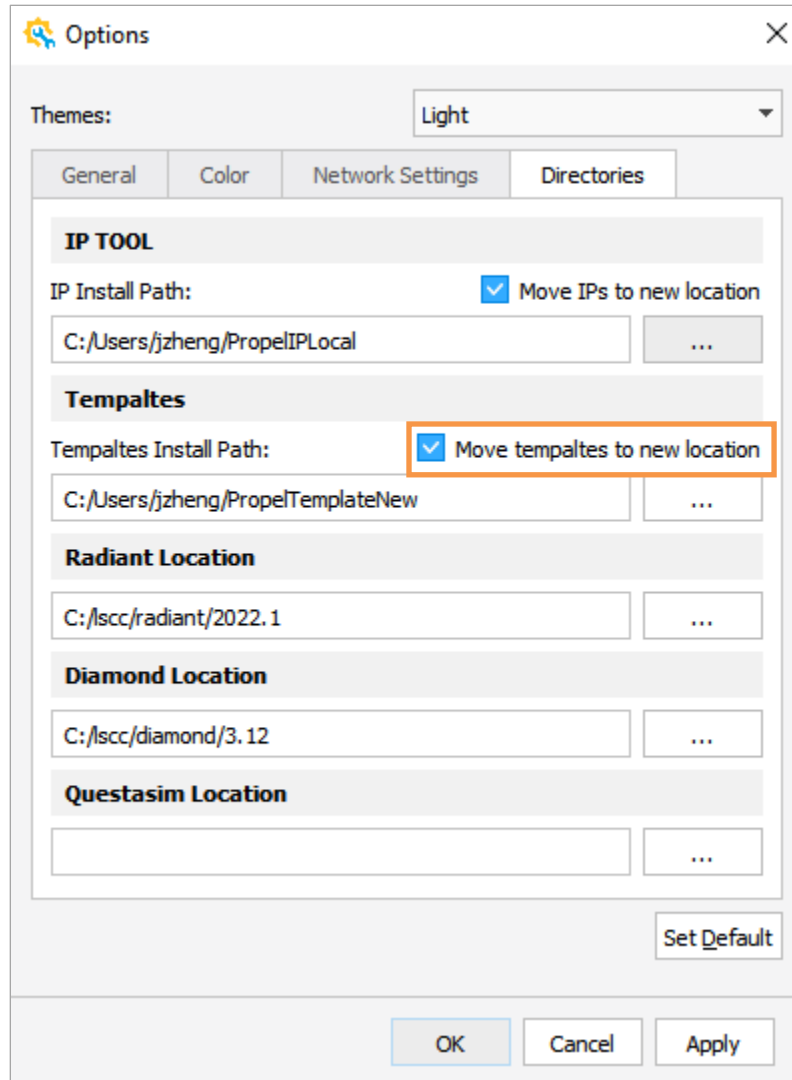

Figure 2.108. Template Manager Page – Change to New Location
- You can move it to another location in **Options** page (Figure 2.108).